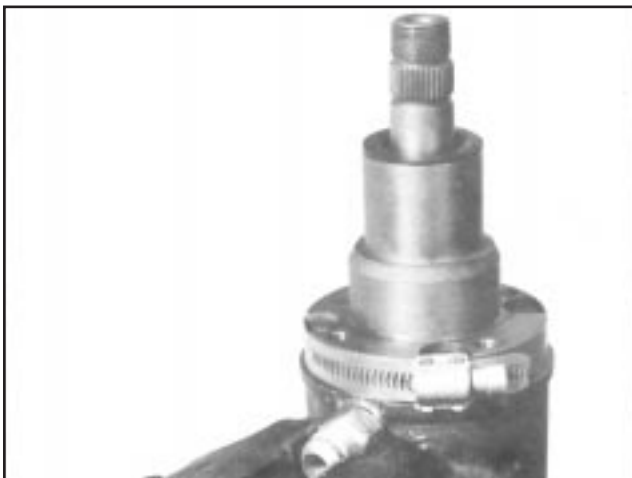

Figure HGA-20
- 16a. Place shims on top of the thrust washer (11). Coat seal (8) with clean grease and place in upper cover (7) counterbore. Assemble upper cover onto input shaft (16) and rotate to align punch marks previously made during disassembly. **Note: If a new upper cover is used no angular orientation is required. However, it is necessary to align the upper cover (7) and housing (25).** Replace without screws, finger tight, and then use a pilot ring or a worm drive type hose clamp tightened around the upper cover flange and the body pilot diameter to achieve the required alignment. Now tighten screws to 18-22 ft. lbs. torque. (See Figure HGA-20).